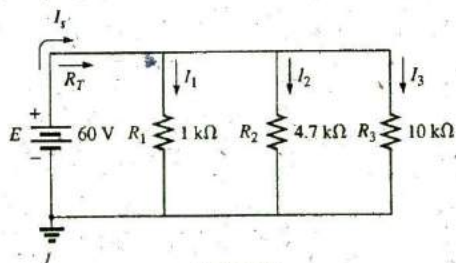

FIG. 6.88
19. For the configuration in Fig. 6.88: